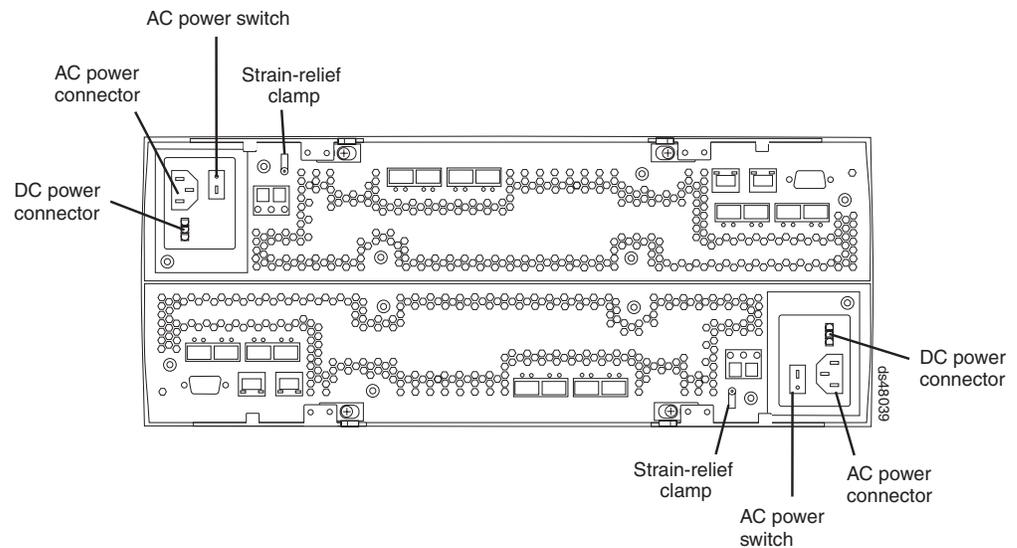

Figure 57. AC power switch and AC and DC power connectors
2. If you have not already done so, turn off all power switches on each storage subsystem and storage expansion enclosure in the cabinet. Figure 57 shows the locations of the power switches and connectors on the storage subsystem.